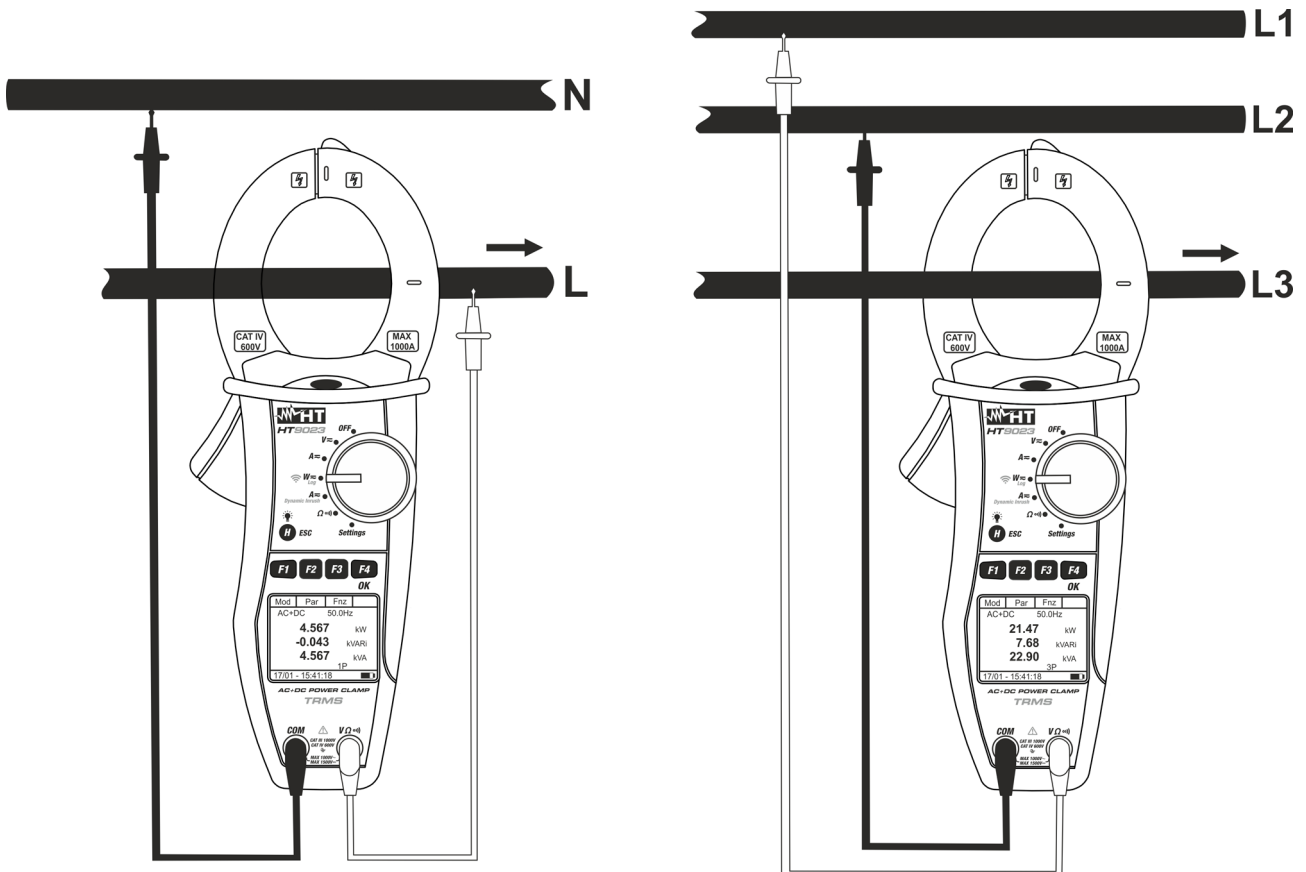

Fig. 13: AC/AC+DC power measure on Single phase and balanced Three phase systems
- Connect red cable to input lead **VΩ¹**) and black cable to input lead **COM** then perform the connection as indicated in Fig. 13 depending on the type of system under test. Put the phase cable into the clamp jaws respecting the direction of current indicated by the arrow (see Fig. 13). Connect the cable to the middle of the clamp jaws, in order to get accurate measurements. Use the marks as a reference (see Fig. 2)